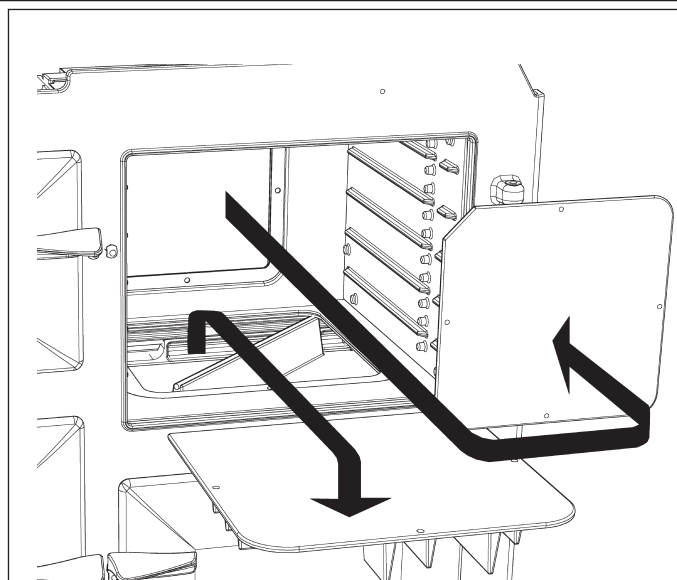

Fig. 8
SEE FIG. 8
3. Insert M12 eye hooks into hotplate (See Fig. 8).